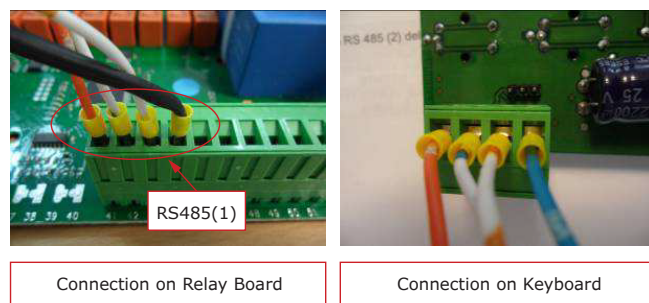

Figure 14: Port Connecting Relay Board to Keyboard
The RS485(1) port on the relay board is used to connect the keyboard (see Figure 14).